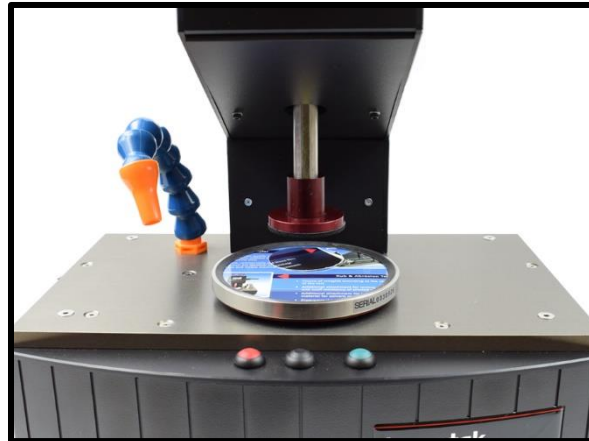

Fig 10
- Place the small test sample underneath the foam head with the side to be tested face down and in contact with the large sample (fig 10).